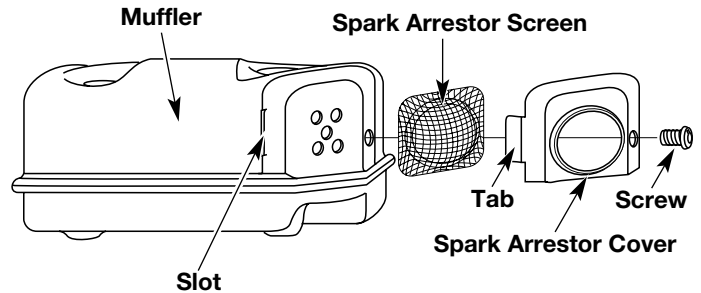

Fig. 45
2. With a flat blade screwdriver or Torx T20 bit, remove the screw attaching the spark arrester cover to the muffler (Fig. 45).